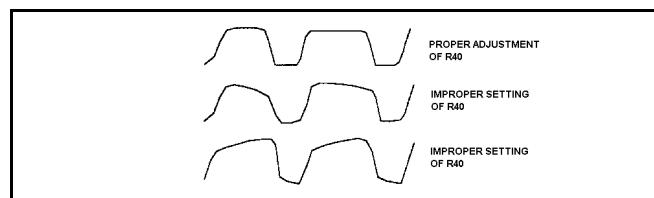

Figure 3A. Proper Adjustment of R40
3. Observe the 150 baud data pattern on the IFR 1200 Service Monitor (field tests indicate the HP8920A will not display the same result.) A properly set low speed frequency compensation (R40 MII exciter) should display a trace resembling a square wave with varying period. The long periods should show virtually no slope either up or down. If a noticeable slope exists, adjust R40 on the MASTR II exciter per the flattest trace. See Figure 3A below.